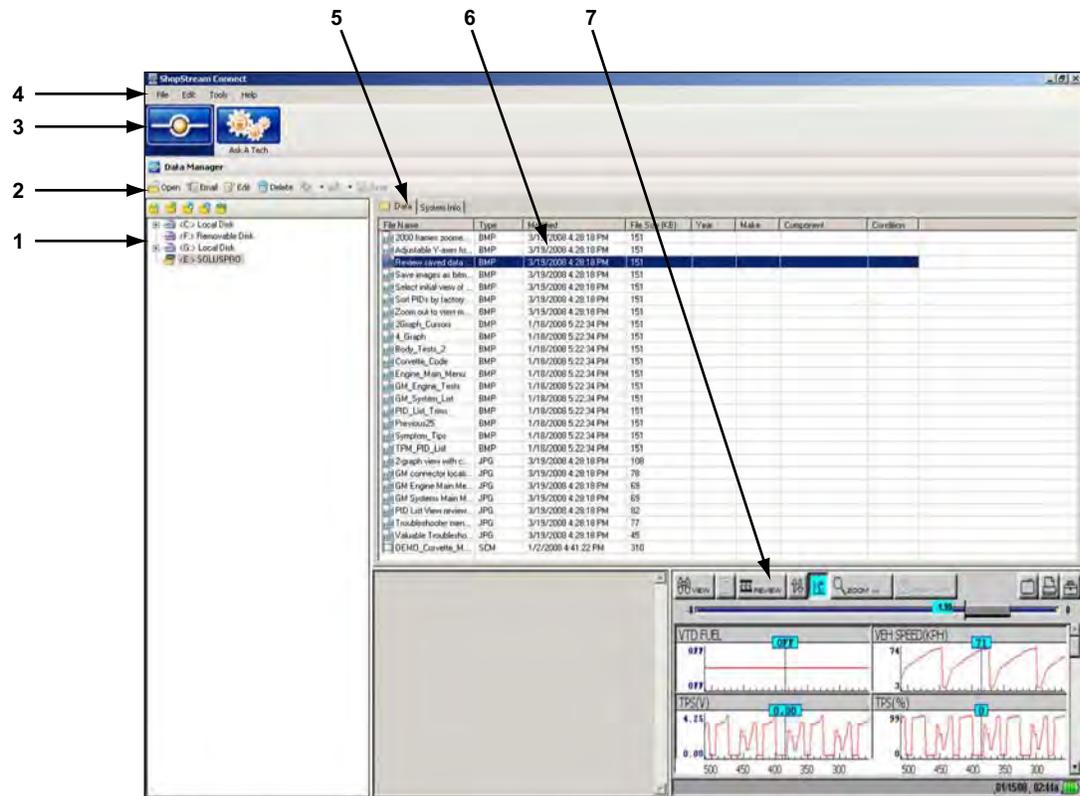

Figure 2-32 Sample Exit selection
2. Select **Exit** from the dropdown menu (Figure 2-32).